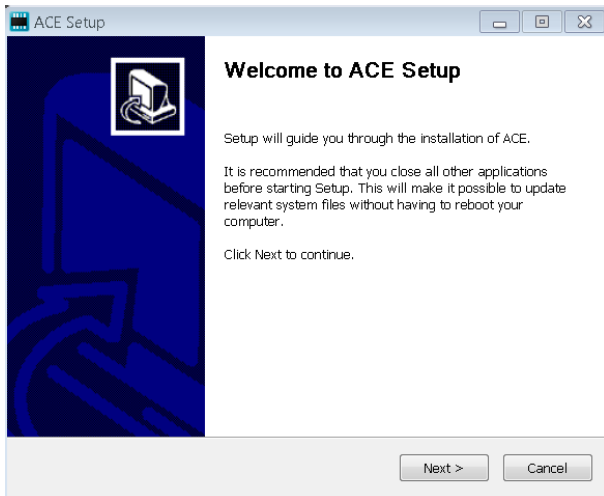

Figure 3. ACE Software Installation Confirmation
4. Click **Next >** to continue the installation (see Figure 3).